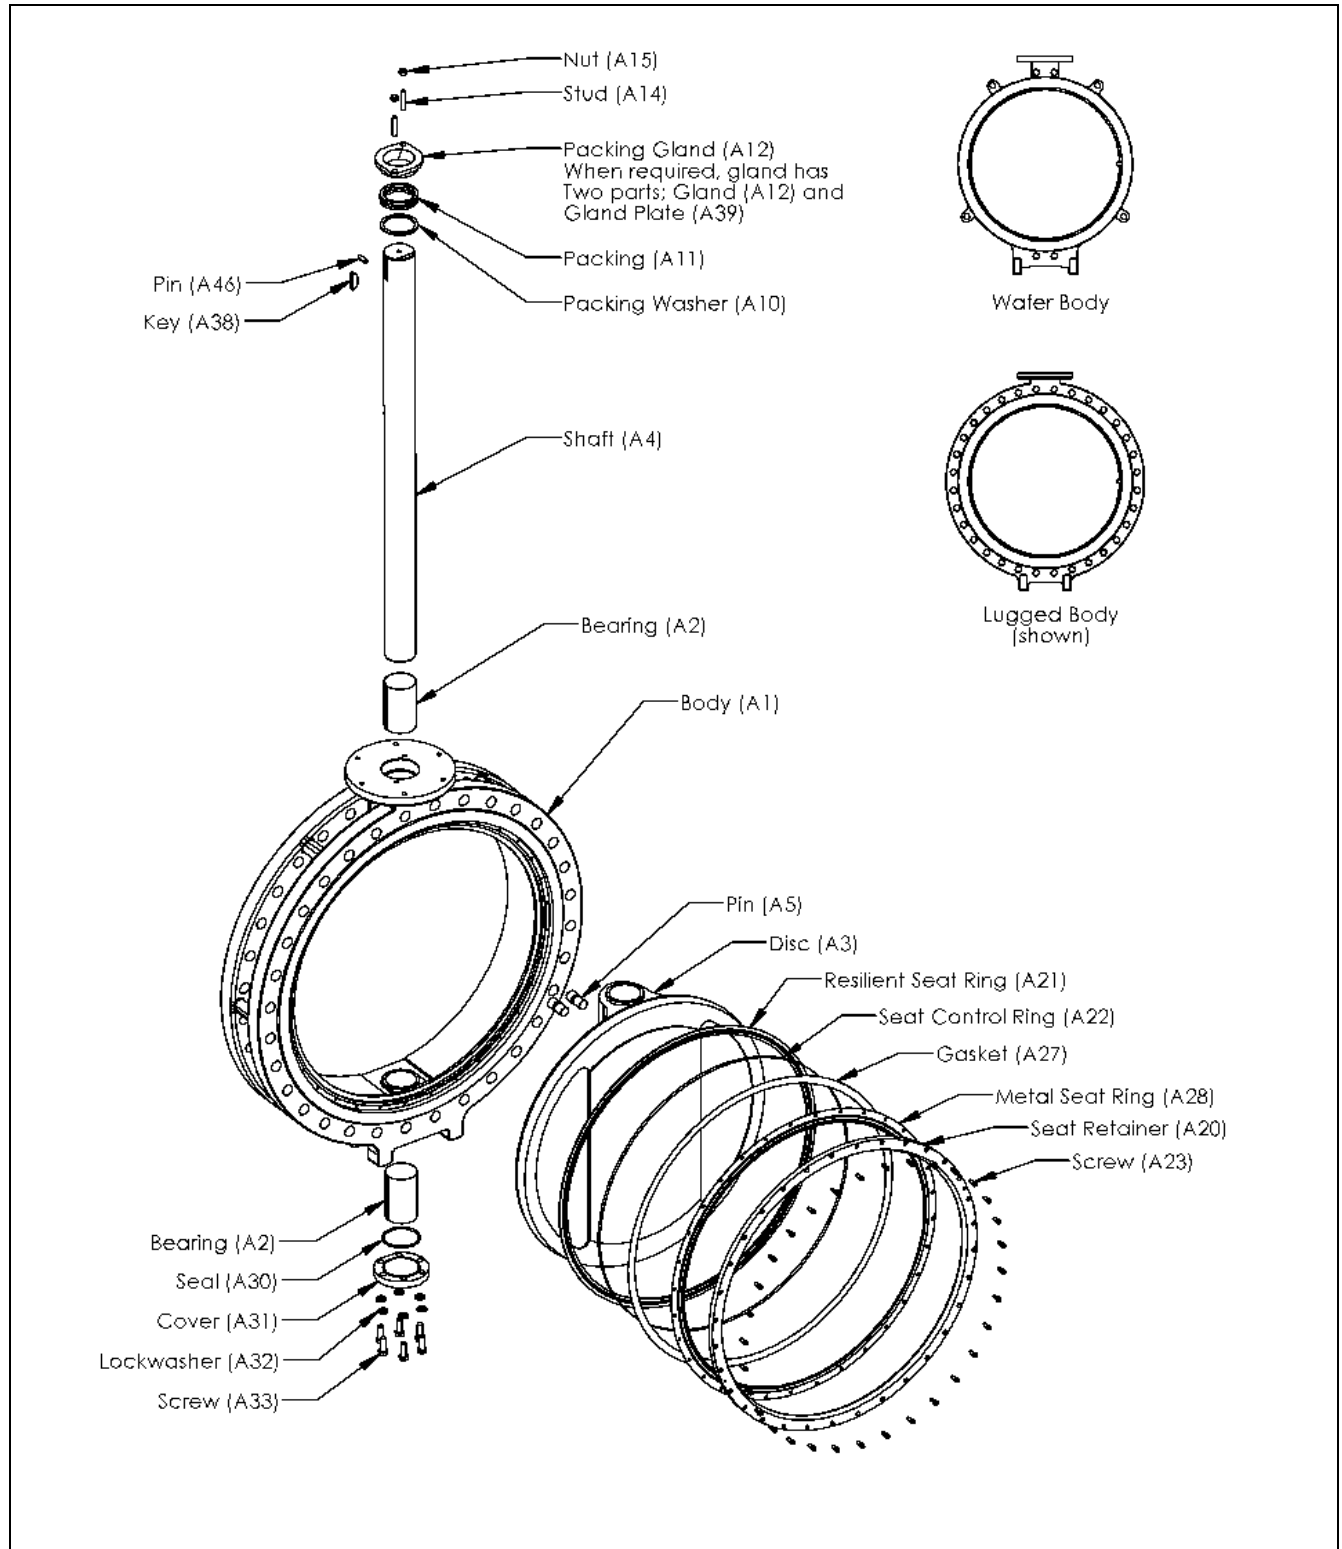

Figure 1 – Component Identification
2. Refer to Figure 1 (page 6) for component identification.
Refer to Figure 1 (page 6) for component identification.